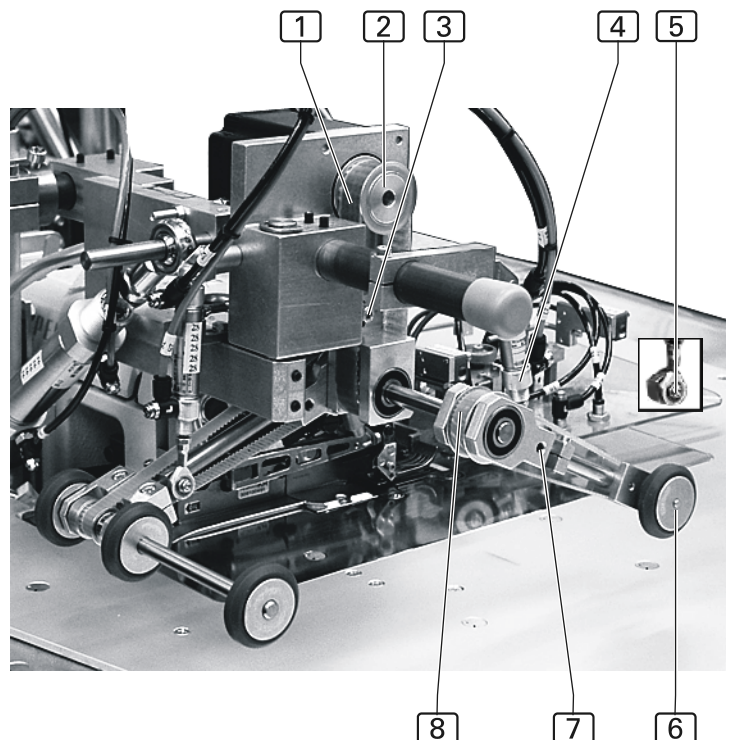

Fig. 4
3. **Fig. 4:** Slacken the toothed belt [1] by removing the locating screw [3] of the stepper motor mounting plate.
3. **Fig. 4:** Slacken the toothed belt [8] by removing the Allen screw [7] at the bearing and sliding the spacer shaft with the transport rollers [6] up.